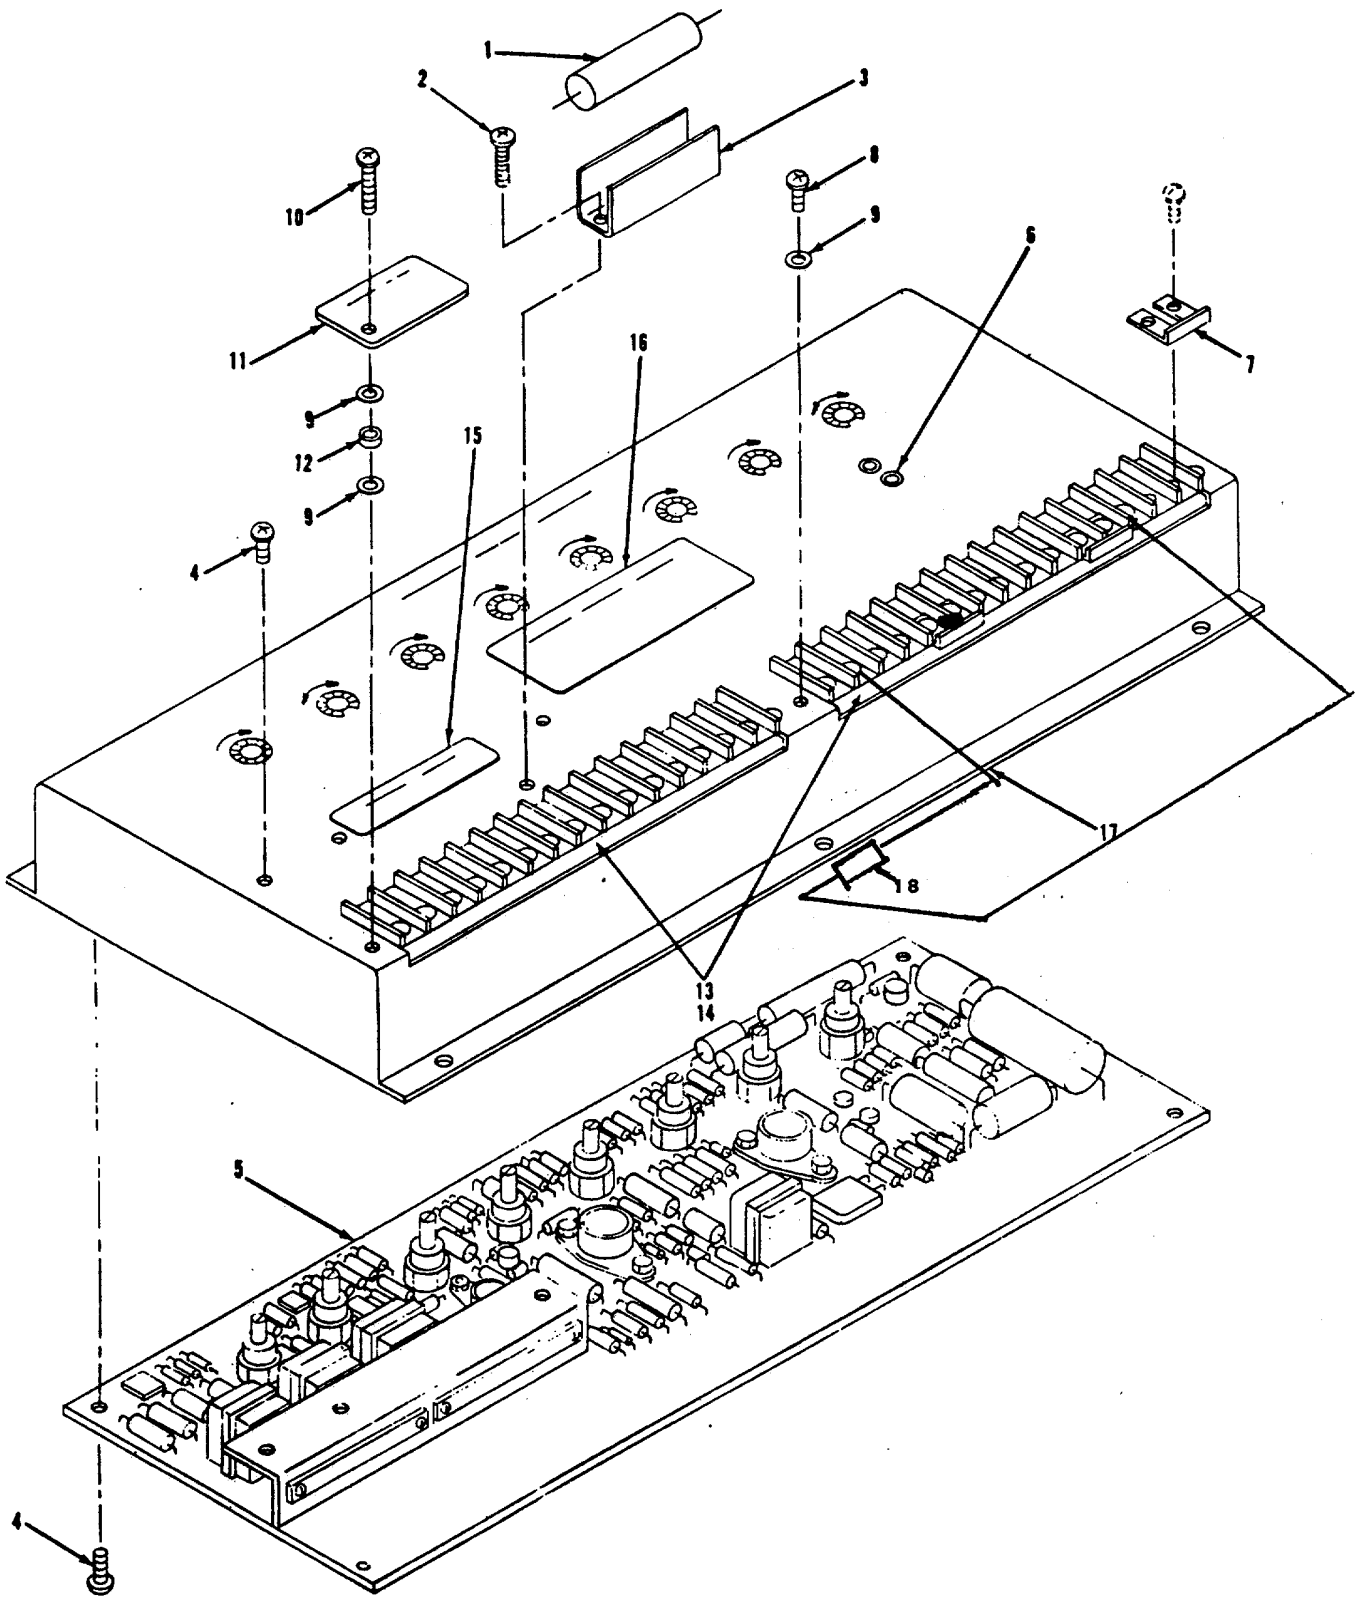

Figure 4-6. Governor Controller, Exploded View
Legend for Figure 4-6.
- (1) Remove terminal boards (13 and 14, figure 4-6), by removing screws (8 and 10), washers (9) warning plate (11), washer (9), spacer (12), and washer (9).
- (2) The printed circuit board assembly (5) is accessible by removing four screws (4) and unsoldering connections to terminal boards.